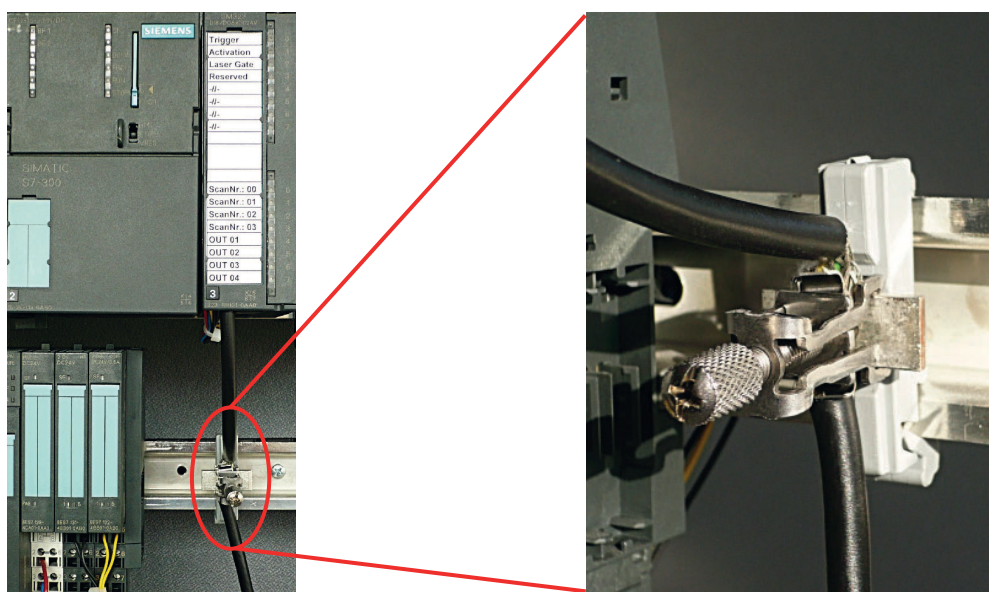

Figure 7.3: Connecting the cable shielding to the PLC
- ↪ Clamp the shield flat to FE in the PLC (see figure 7.3).